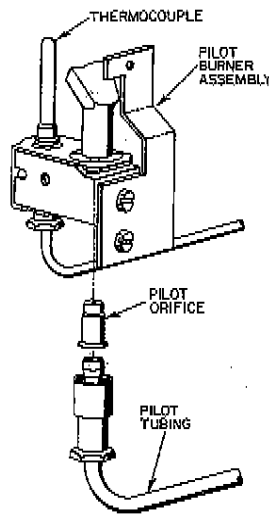

Fig. 2—Robertshaw Pilot
6. Remove and discard propane gas pilot orifice (red, 9/16-in. long, 0.010-in. diameter orifice marked LP) from gas supply opening of pilot. (See Fig. 2.)